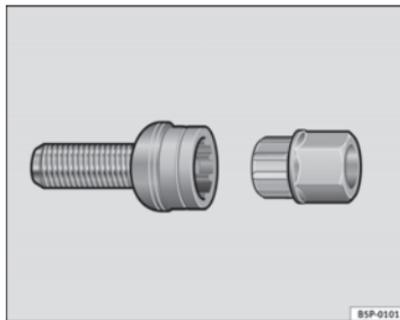

Fig. 186 Anti-theft wheel bolt
- Insert the adapter onto the wheel bolt and push it on as far as it will go ⇒ Fig. 186.